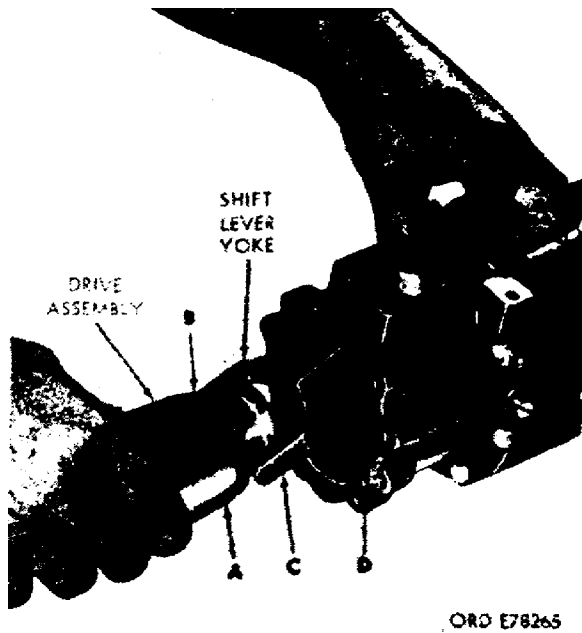

Figure 13. Drift punching.
(1) By lifting the yoke cover slightly, the yoke pin holding the shift lever yoke is exposed. Using a suitable drift punch, tap the yoke pin from the yoke cover (fig 13) and free the cover from the housing.